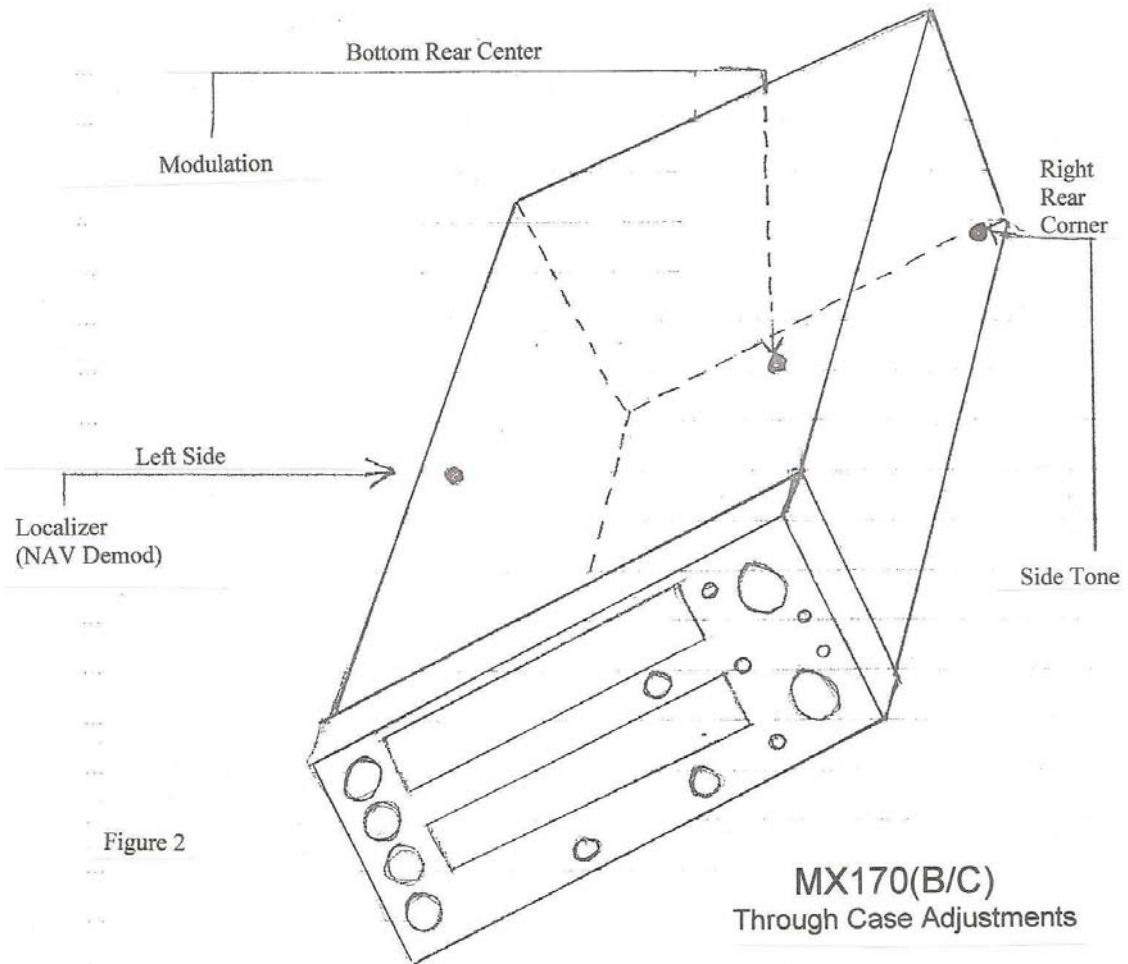

Figure 2
Operating controls for the MX170(C) are located on the unit front panel or through three access points in the case (See Figure 2)
Installation adjustments are accessible without removing the cover and include a side tone level adjustment, a microphone gain adjustment, and an audio gain adjustment (See Figure 2).